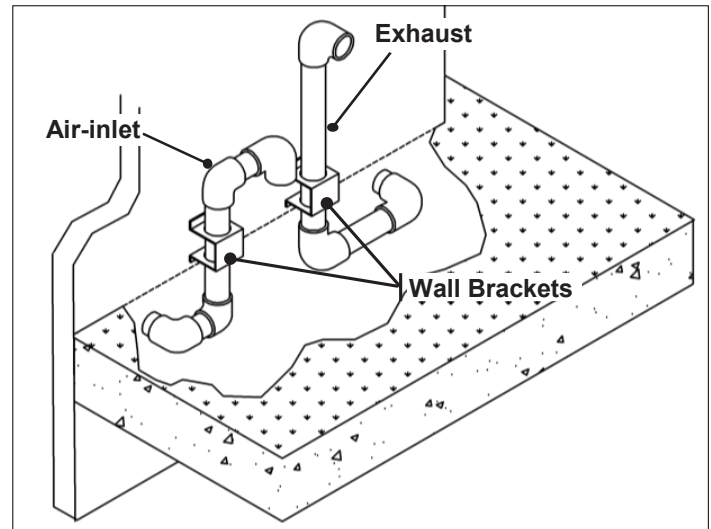

Figure 19 - Venting Below Grade
- Excavate the site to a point where the pipes are to exit as shown in Figure 19.